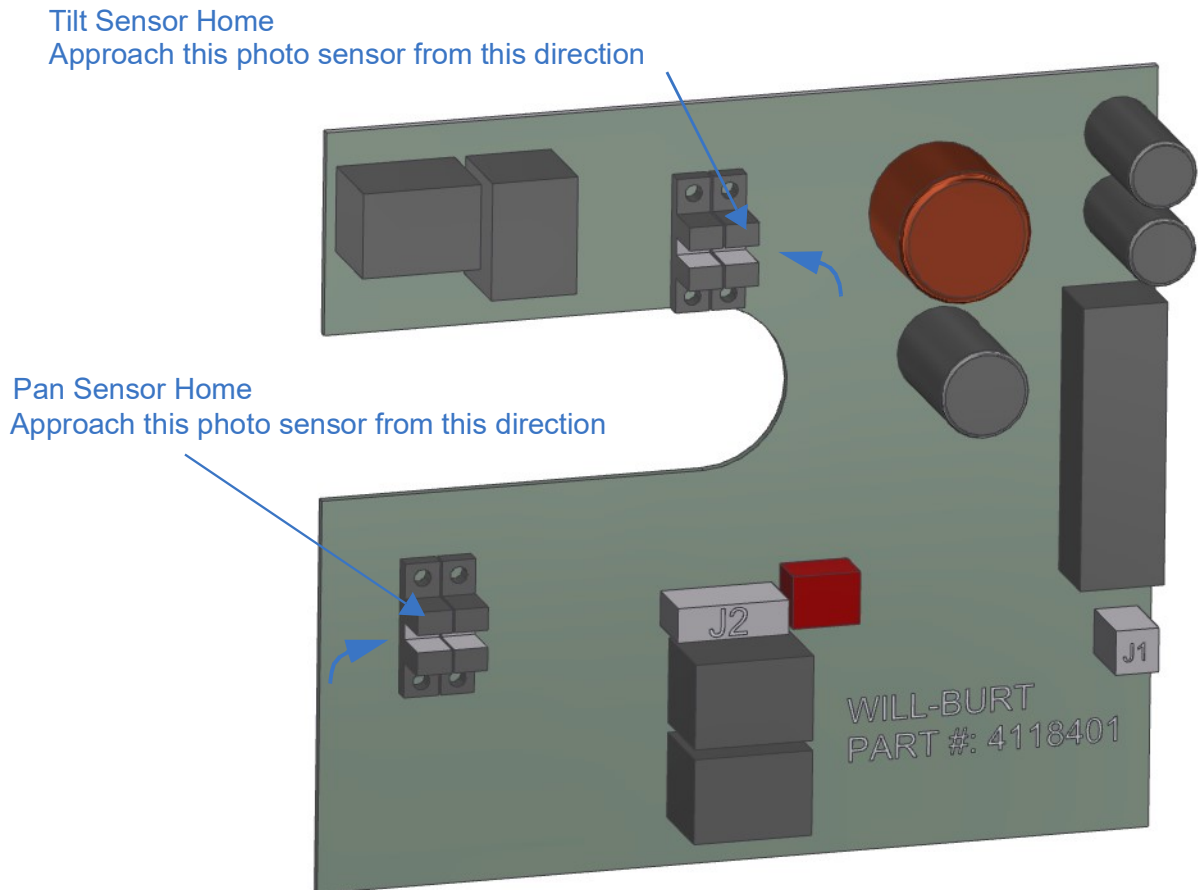

Figure 7-4 RCP PCB Photo Sensors
5. The pan and tilt functions have two photo sensors for each function. It is important that the flags engage the correct photo sensor from the proper direction when setting the home position (Figure 7-4). To set the Tilt Home Position, turn the timing ring on the tilt shaft such that it rotates counterclockwise toward the photo sensor (see Figure 7-4). As you approach the sensor, watch the controller. As soon as the "Tilt Down" LED goes out, stop rotating the ring and tighten the set screw. This should be roughly 80% penetration into the sensor with the flag.
6. To set the Pan Home Position, turn the flag clockwise (looking from above the RCP) until the "Pan Right" LED goes out (see Figure 7-4). Tighten the adjustment screws to secure the ring.